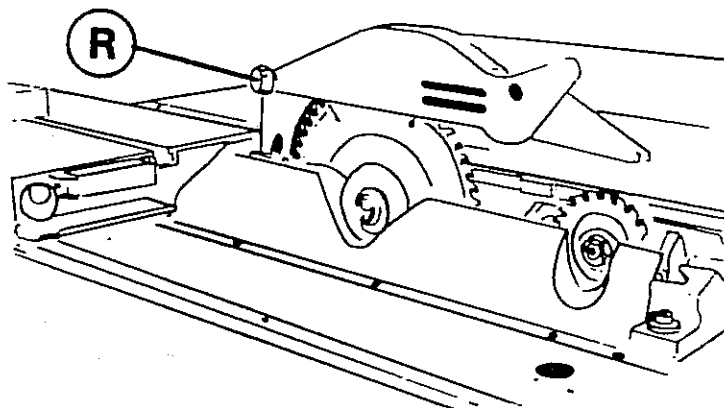

Fig.29
Guard (fig.29) is fitted to riving knife by means of knob (R). Never take off the guard and position it so that the saw blade is completely covered.